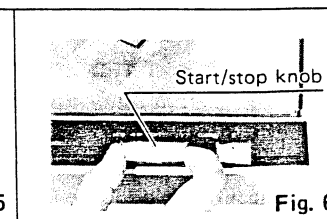

Fig. 6
3. Set the start/stop knob to the "start" position. (See Fig. 6.)